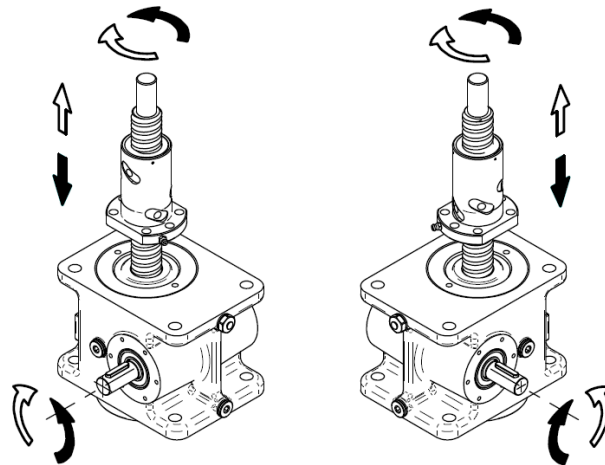

Figure 6.10 – MA BS Mod.B and SJ BS Mod.B screw jack shifting directions
- To change the position of the ball nut without rotating it, rotate the input shaft of the screw jack in proper direction (see Fig. 6.10 - 6.11).
- In case of screw jack with bellow protection (B): DO NOT TWIST THE BELLOW